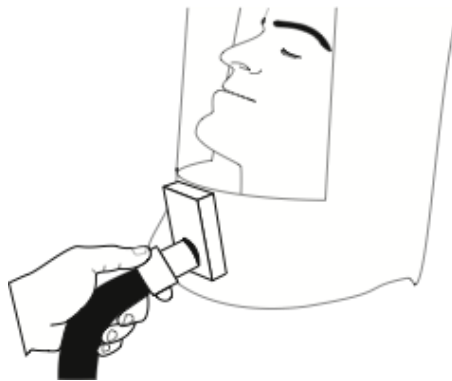

Fig. 7
16. Polar Breeze® cools most efficiently through its Hood whereby the scalp and face are cooled while breathing cold air. Cold air in the lungs preferentially cools the bloodstream and thereby the internal organs. *Thus Polar Breeze® cools you from the inside out when the Hood is used.* The Hood/Hose connection can be before the face (Fig. 7) or behind the neck depending on your preference. The mildly stiff rim at the bottom of the Hood should be placed beneath the collar of user's shirt to hold the Hood in place and to exhaust its cold air over the chest and back for added surface cooling.